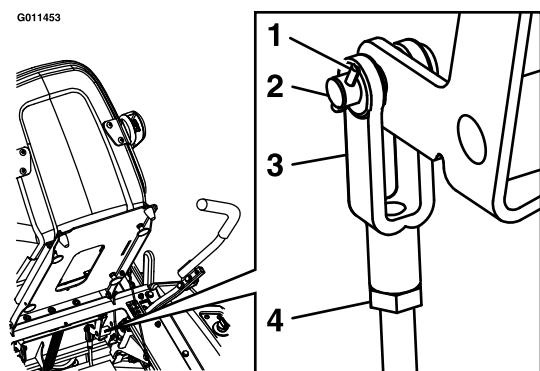

Figure 28
7. If adjustment is necessary, loosen the jam nut from the yoke on the side that needs adjustment. Remove the hairpin and clevis pin (see Figure 28).